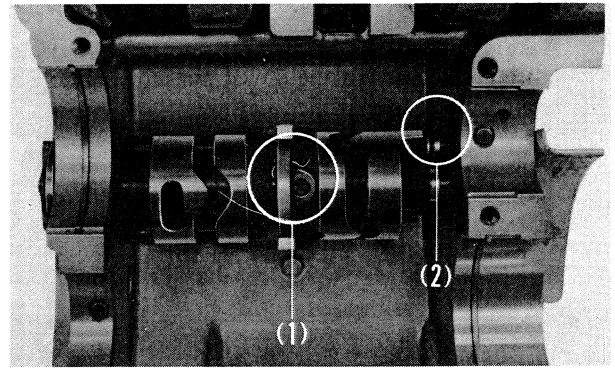

Fig. 4-91 (1) Installation direction of guide pin clip
3. With the gearshift drum in the neutral position, insert the guide pin into position and install the guide pin clip as shown in Fig. 4-91.